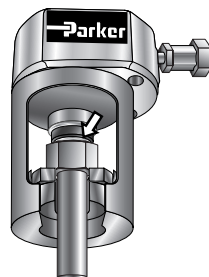

Figure 49
3. Insert Tube Assembly, Figure 47, into Nut Die as shown in Figure 49.